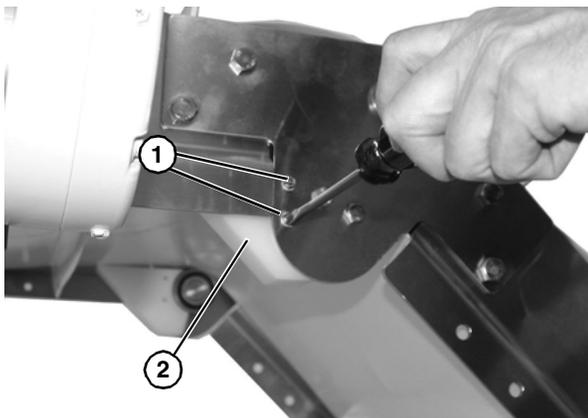

**Figure 58**
- Remove spacer (**Figure 58, item 1**), rollers (**Figure 58, item 2**) and tube spacers (**Figure 58, item 3**) from shaft.